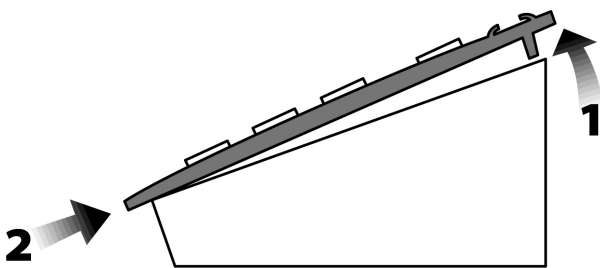

Figure 3.2.1 Removing the cover
- Slightly lift the rear edge of the cover and push on the front edge toward the back of the unit to dislodge the cover from the enclosure (figure 3.2.1).